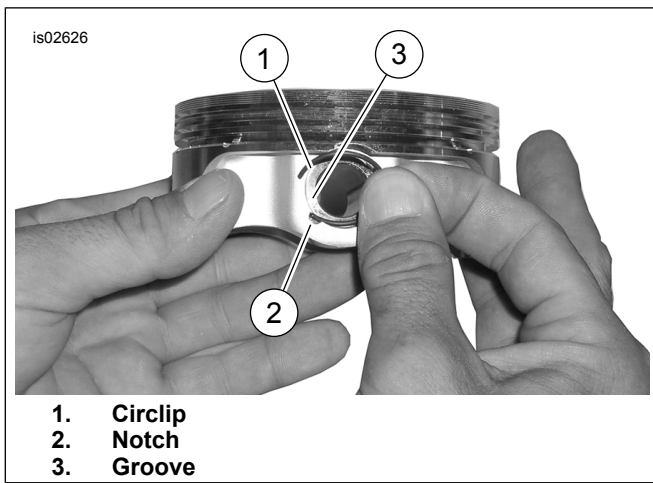

Figure 3. Circlip and Piston
1. See Figure 3. Insert the open end of the circlip (1) into the notch (2) on the groove (3) around the piston pin boss so that the gap is at the 12:00 or 6:00 o'clock position when installed.